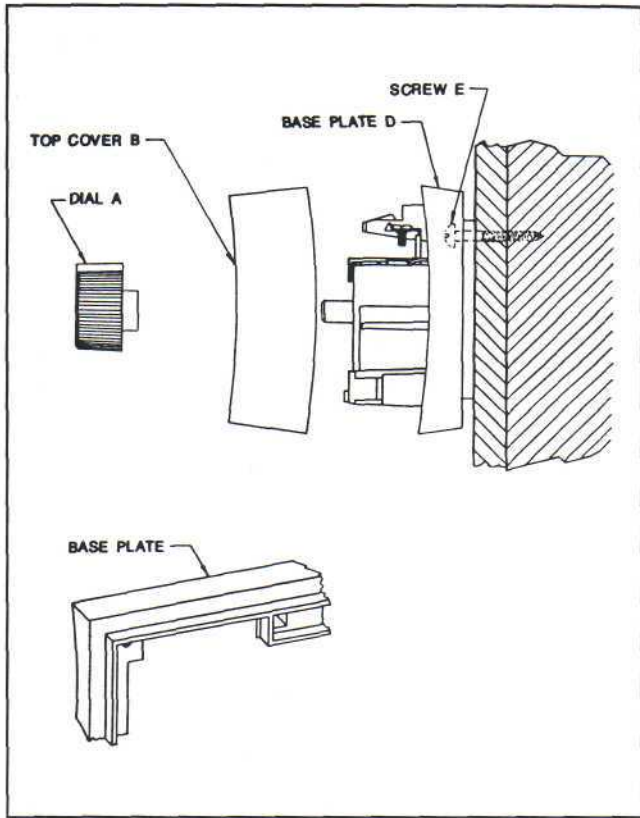

Fig. 1
7. (See Fig. 1.) Gently pull dial (A) from humidistat cover (B). Cover is held in place by snap clips. Remove cover by pulling carefully. Never allow hands to come in contact with sensing element.
8. Pull low voltage leads through opening in base plate (D).
10. Attach base plate with humidistat to the wall using two screws (E).